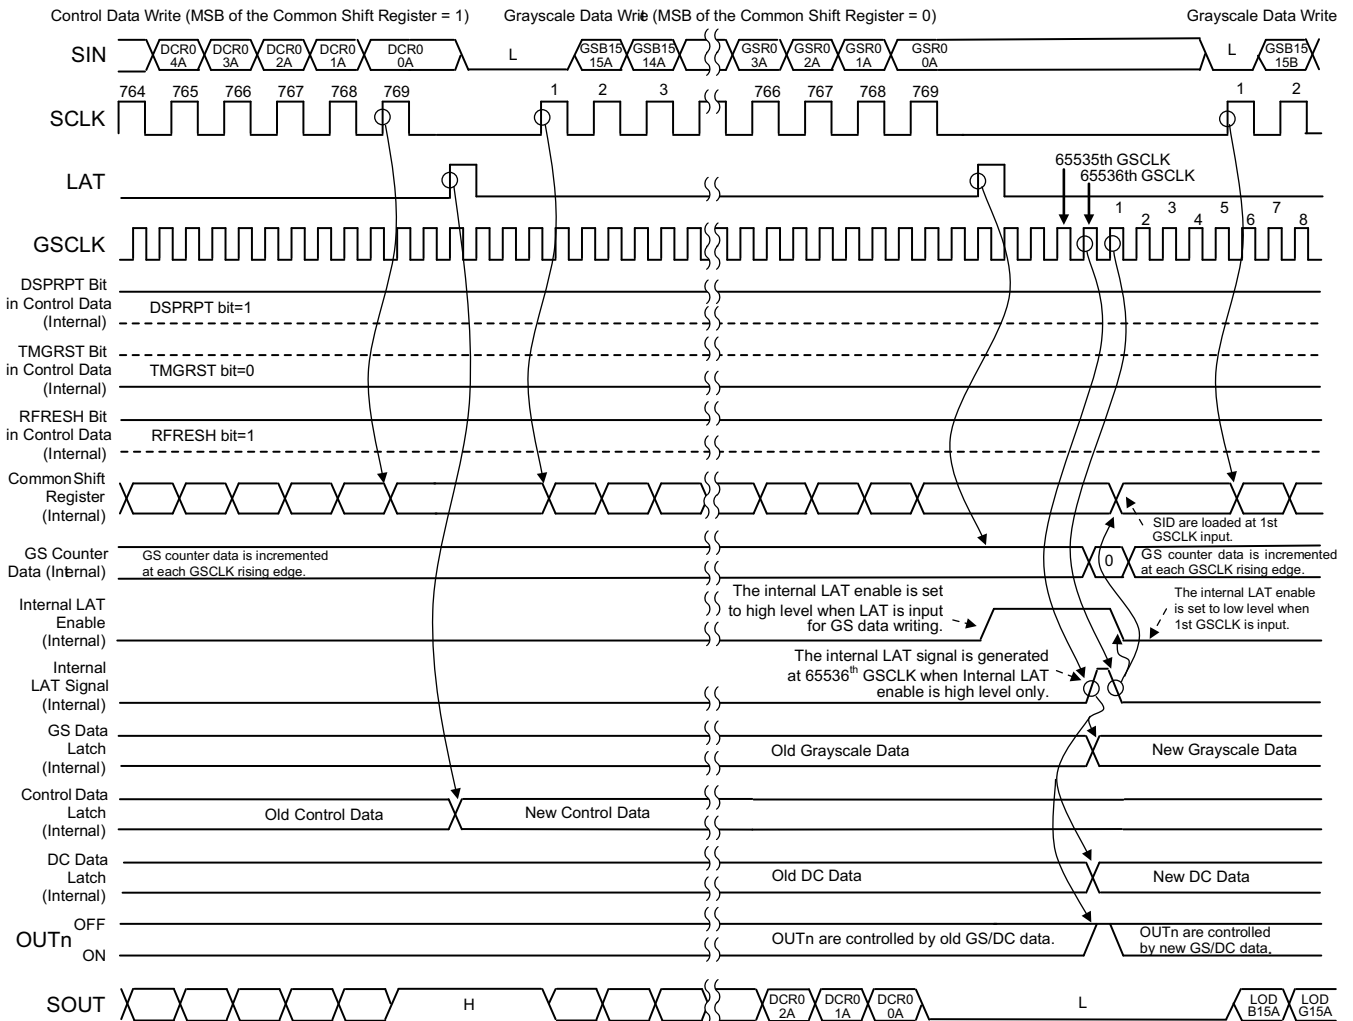
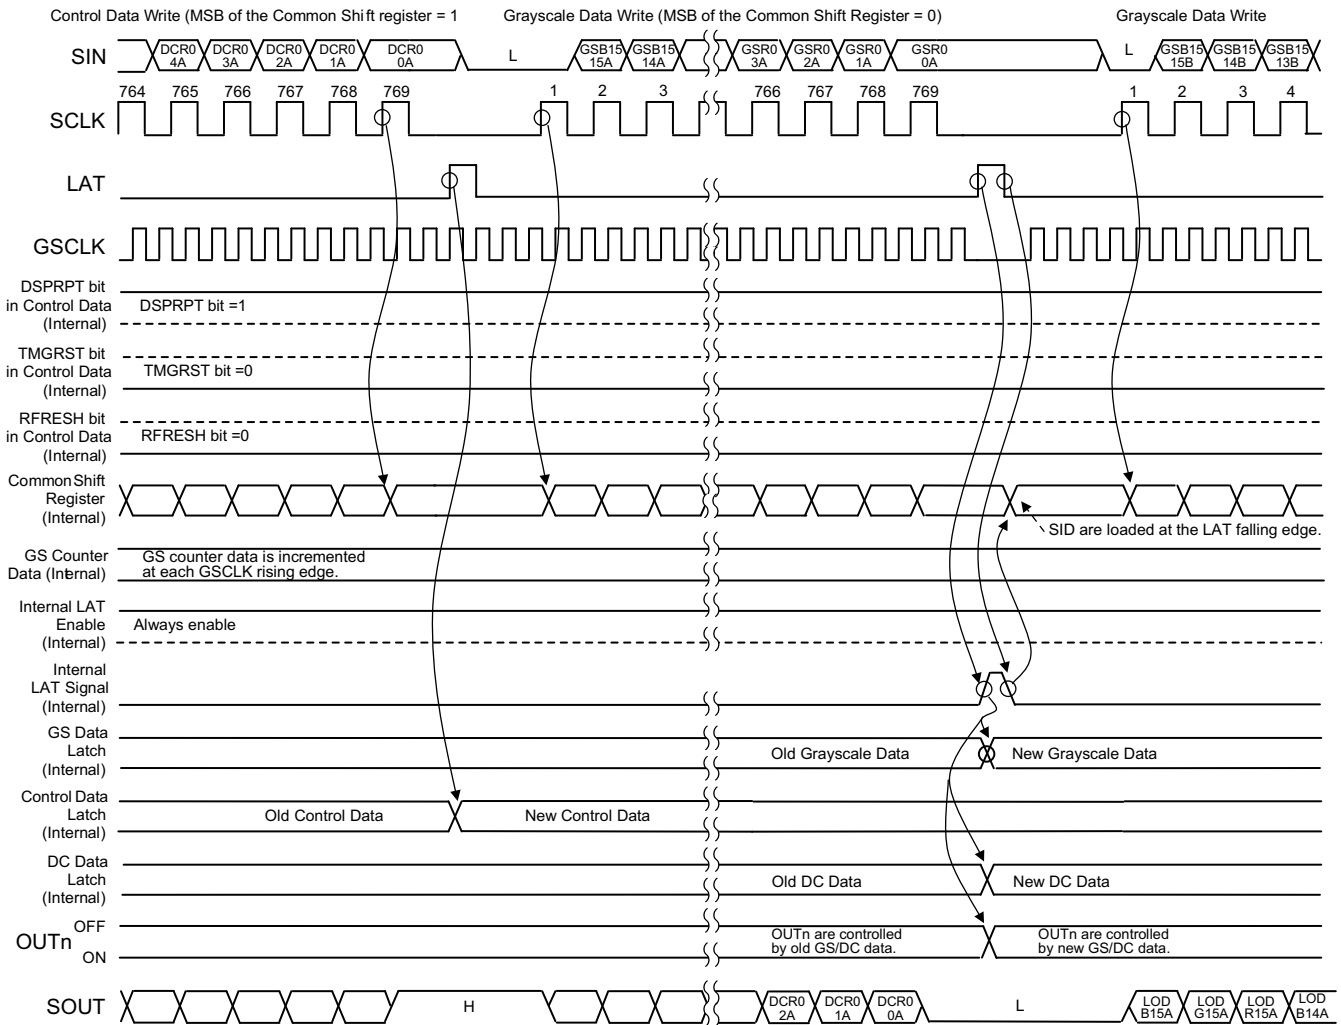

图 8-11. Auto Data Refresh Function 1 (DSPRPT = 1, TMGRST = 0, and RFRESH = 1)
图 8-12. Auto Data Refresh Function 2 (DSRPRT = 1, TMGRST = 0, and RFRESH = 0)
This function delays updating the grayscale (GS) and dot correction (DC) data until the end of one entire display period. If both DC data and GS data are written by the end of an entire display period, the input DC data are held in the control data latch and the GS data are held in the common shift register. Both DC and GS data are copied to the 336-bit DC data latch and 768-bit GS data latch at the end of an entire display period. The data latches are used for the next display period. GS data are directly copied from the common shift register to the GS data latch. Therefore, GS data must be written after the DC data are written. Furthermore, the GS data in the common shift resistor must not be changed until all data are copied to the GS data latch. 图 8-11 and 图 8-12 show timing diagrams for this function.